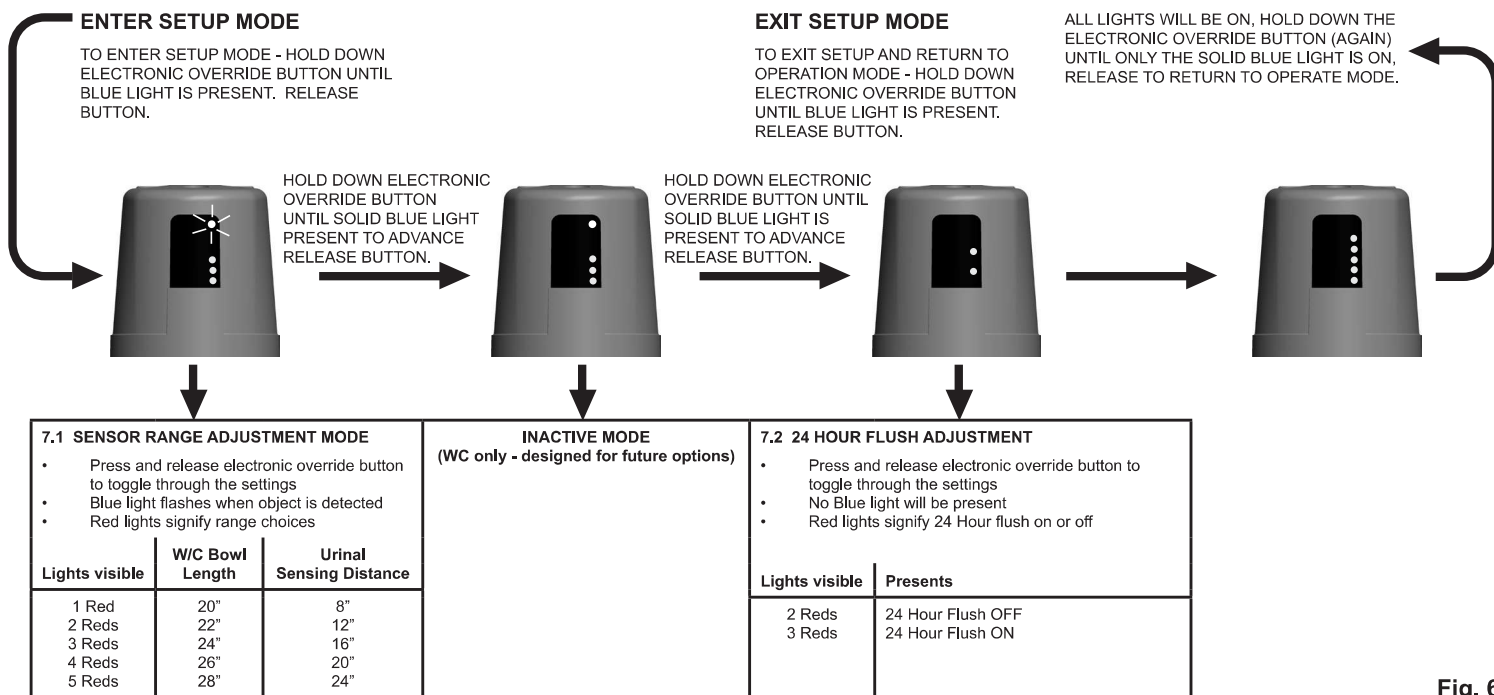

Fig. 6
- While in Set-Up Mode, the user will move through the different adjustment modes one by one, in the order as described above. Use the electronic override button to toggle through the different settings of the adjustment feature being altered. To advance to the next adjustment mode, hold down electronic override button until blue light is present, then release the button. See Figure 6.
- Configure the sensing ranges by selecting the appropriate bowl length. Refer to Figure 6 for the different bowl length settings.
- Each press and release of the electronic override button advances to the next length/distance. (See Figure 6 for a list of distances)